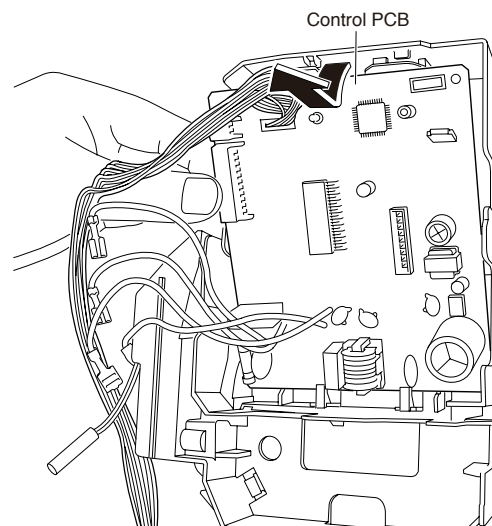

Fig. 33
- (9) Lift up the upper part of the control P.C.Board and remove it. (Fig.33)